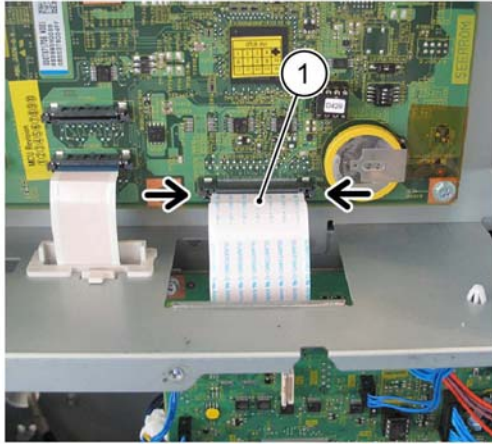

Figure 4 Ribbon cable
7. Carefully disconnect the ribbon cable (1) by releasing the side clips, Figure 4.